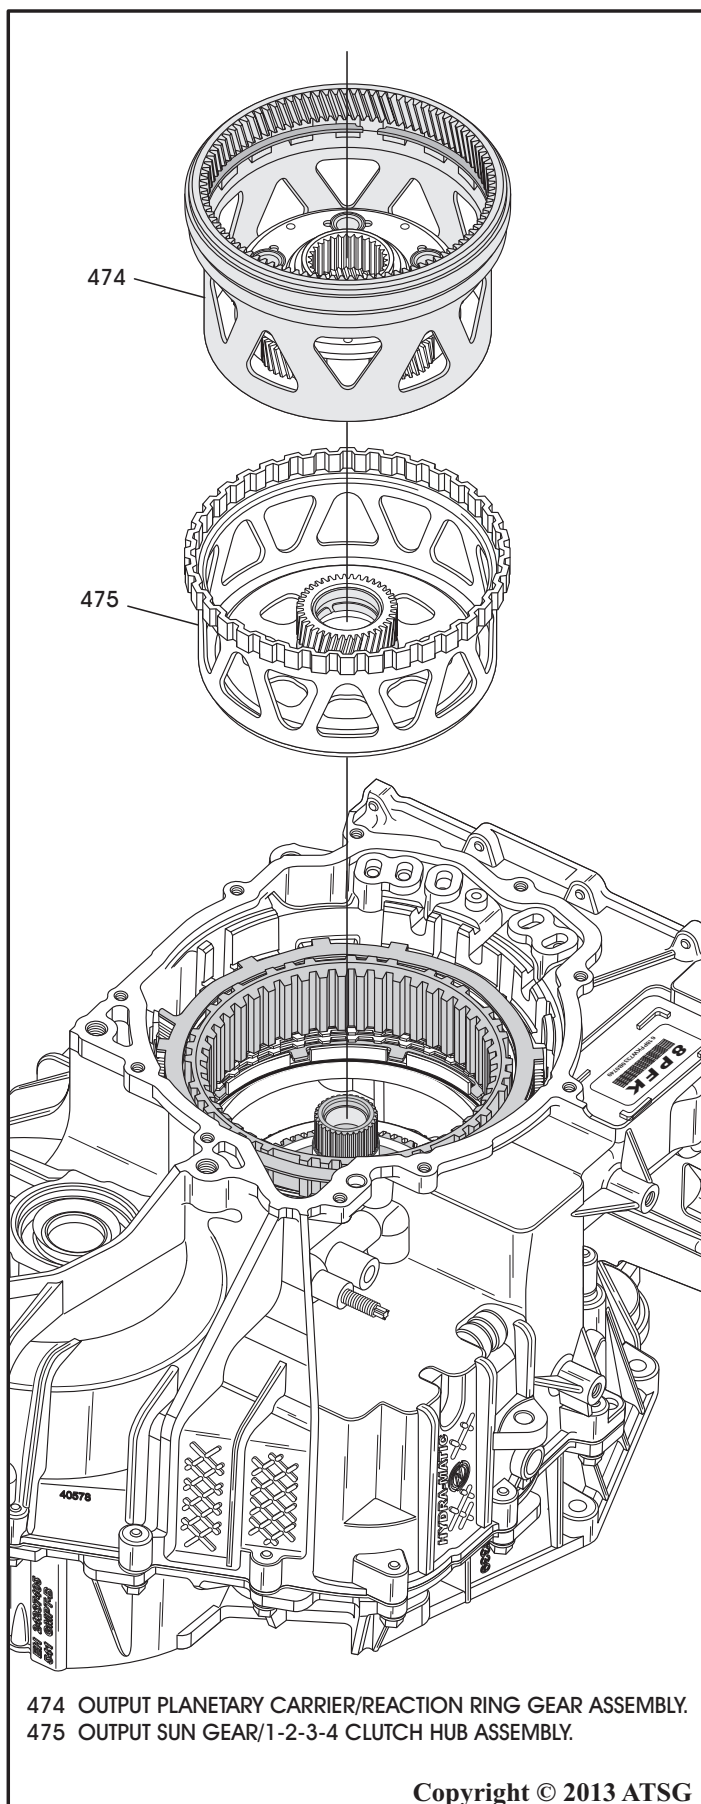

Figure 61
37. Remove the output planetary carrier assembly, as shown in Figure 61.
38. Remove the output sun gear/1-2-3-4 clutch hub assembly, as shown in Figure 61.